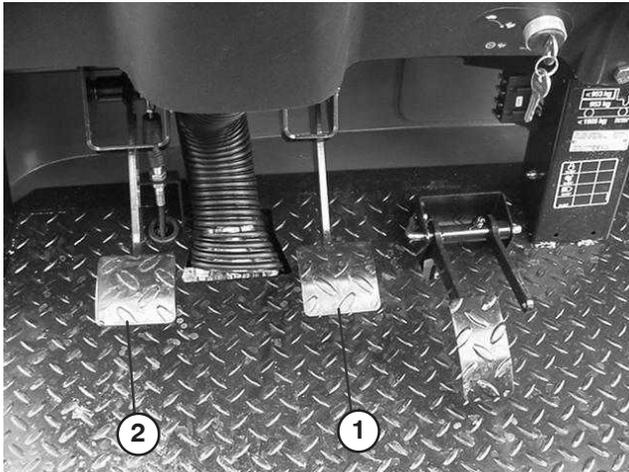

Figure 60
2. Lift up on brake pedal (Fig. 60) until it contacts frame.